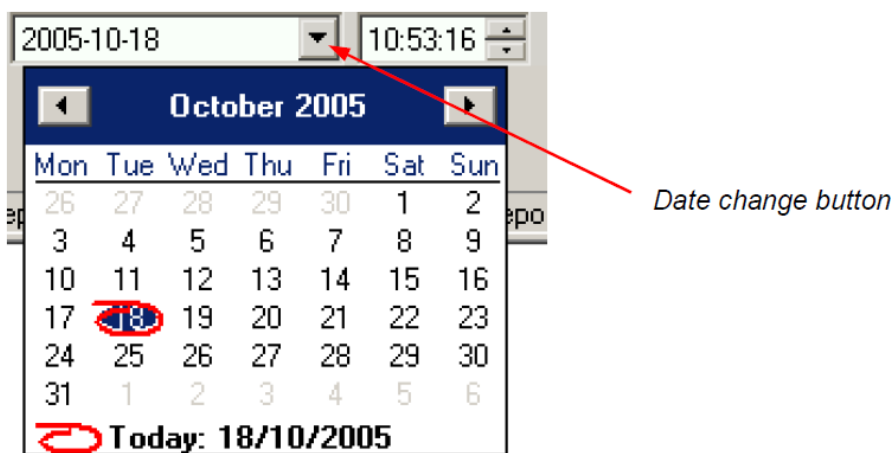

Fig. 3.4. Changing the “From date”
1) In order to change “From date” or “To date” date, click onto the arrow on right side of the date (Fig. 3.4). The calendar window will open: